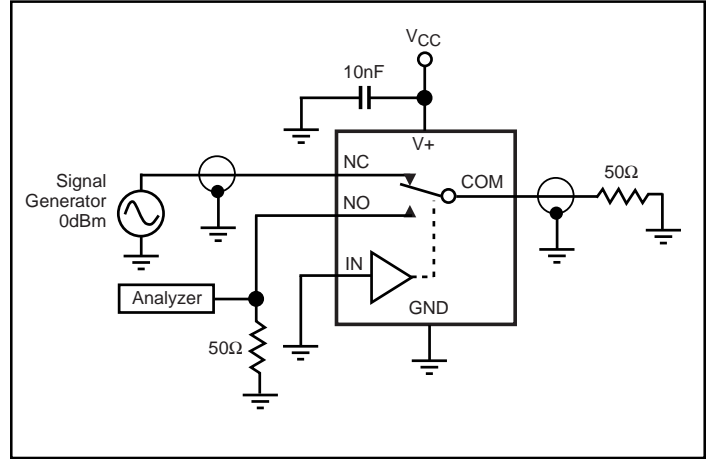

Figure 5. Crosstalk
8. Between any two switches. See Figure 5.